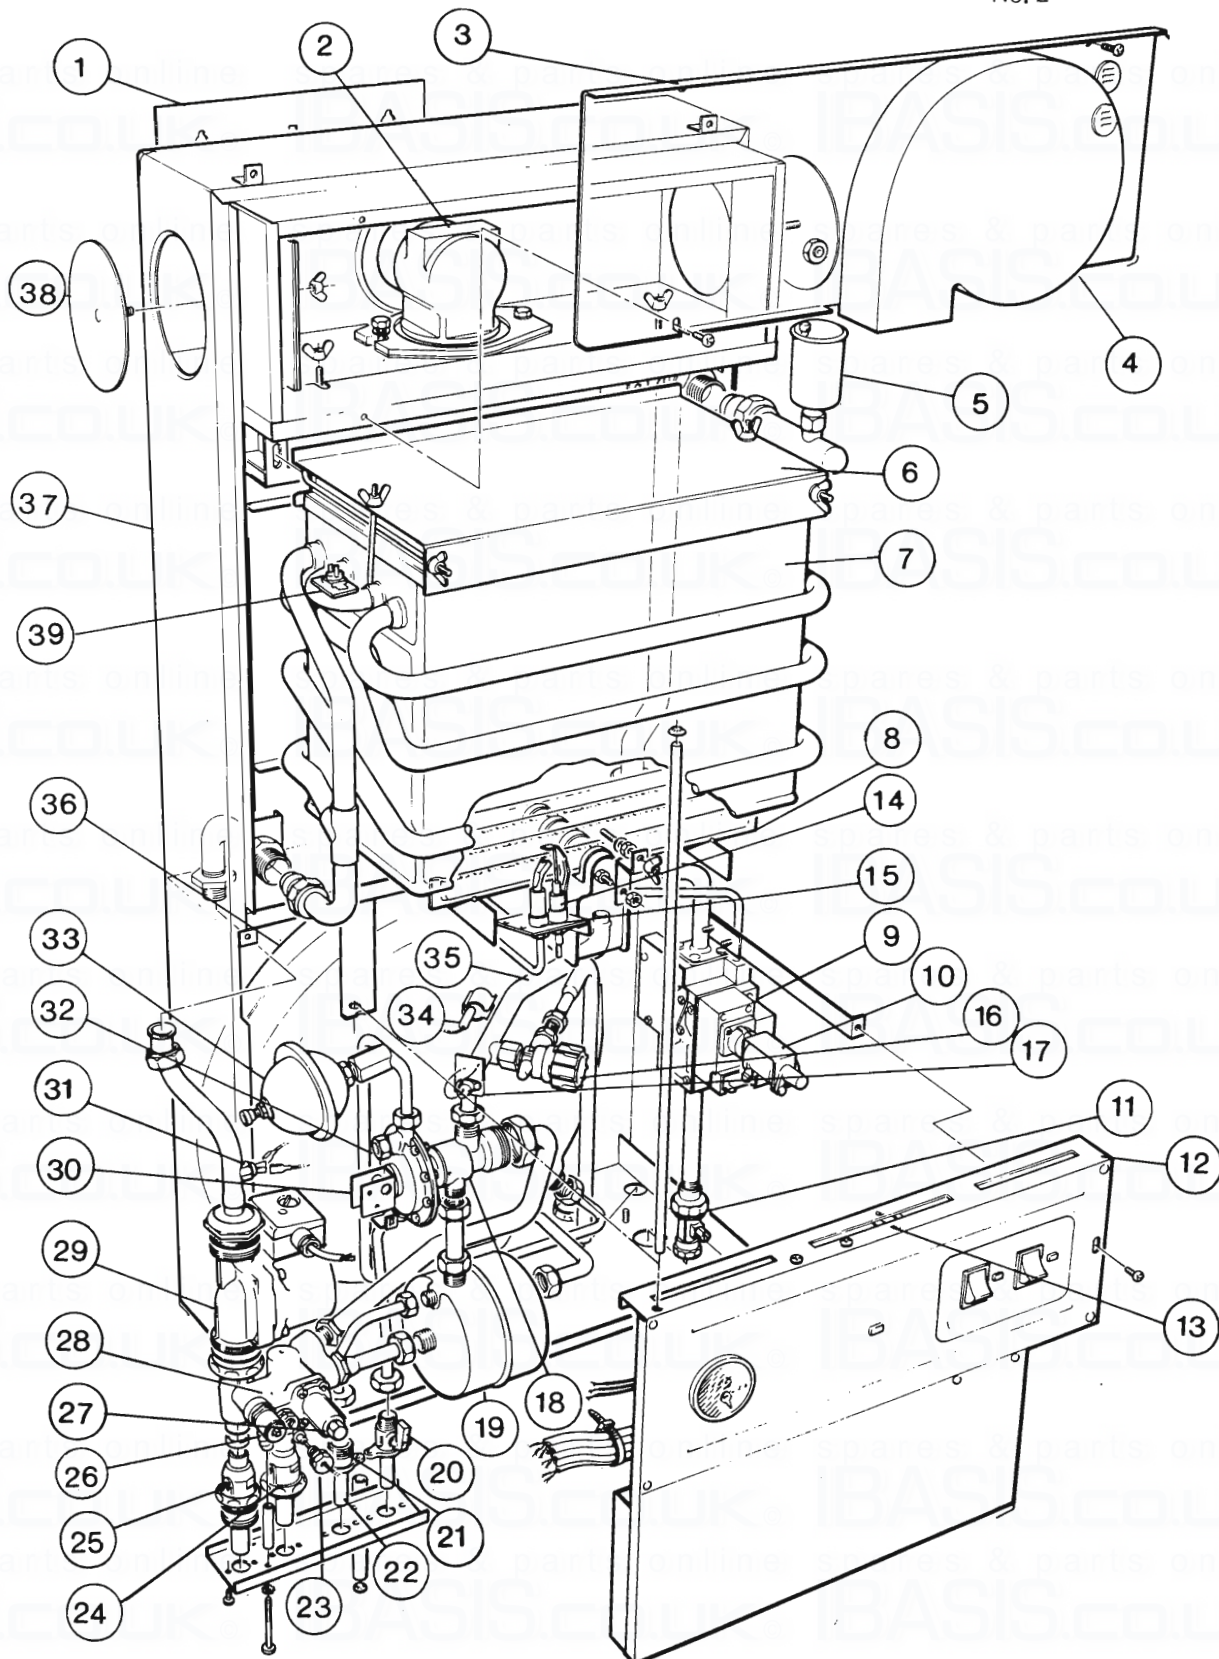

Fig.1
Diverter Valve:Refer Fig.1.
DHW Calorifier-Refer Fig.1.
Pump:Refer Fig.1.
Safety Valve:Refer Fig.1.
Automatic Air Vent-Refer Fig.1.
Boiler Heat Exchanger:Refer Fig.1.
CH Expansion Vessel:Refer Fig.1.
Note: The cap on the automatic air vent Refer Fig1. MUST be loose at all times. When filling there may be a slight water leak from the vent, so electrical connections on the gas control valve should be protected.
2. Press the overheat thermostat No. 1 reset button- refer fig. 1, page 11- & continue with the fault finding procedure. If the thermostat operates before normal working
3. Remove the boiler casing, press the overheat thermostat No. 2 reset button- refer fig. 1, page 11- & continue with the fault finding procedure. If the thermostat operates before the normal working temperature is reached then replace the thermostat